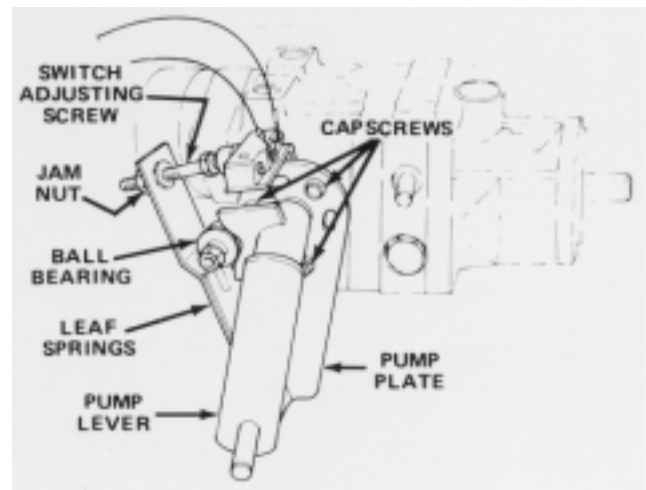

Figure 38
1. Park vehicle on a level surface and turn engine off. Apply the parking brake, tip seat forward, and actuate pump lever (Fig. 38) to ensure assembly is properly seated and operating freely. Correct any discrepancy.
6. Because the wheel is rotating, the pump plate must be adjusted. But before adjusting the pump plate, move throttle to SLOW. If wheel is rotating forward, loosen cap screws, and lightly tap bottom of pump plate counterclockwise (Fig. 38). By contrast, tap pump plate clockwise if wheel is rotating backward (Fig. 38). When
11. Because the wheel is rotating, the pump plate must be adjusted. But before adjusting the pump plate, move throttle to SLOW. If wheel is rotating forward, loosen capscrews, and lightly tap bottom of pump plate counterclockwise (Fig. 38). By contrast, tap pump plate clockwise if wheel is rotating backward (Fig. 38). When wheel stops rotating, tighten capscrews holding pump plate against side of transmission. Verify the adjustment with throttle in SLOW and FAST position.
- Ball bearing is loose or worn out (Fig. 38).
- Weak or damaged leaf springs (Fig. 38). Replace.
2. Actuate the pump lever (Fig. 38) to ensure all parts are operating freely and seated properly.
3. Loosen jam nut. Rotate switch adjusting screw (Fig. 38) until there is a gap between head of screw and switch button.